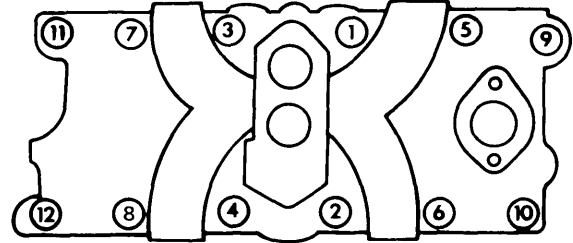

Fig. 1 Intake Manifold Tightening Sequence
2) Position intake manifold on engine, inspect seals for correct positioning and install manifold attaching bolts. Tighten bolts in sequence, as shown in Fig. 1, using two steps to reach tightening specifications.